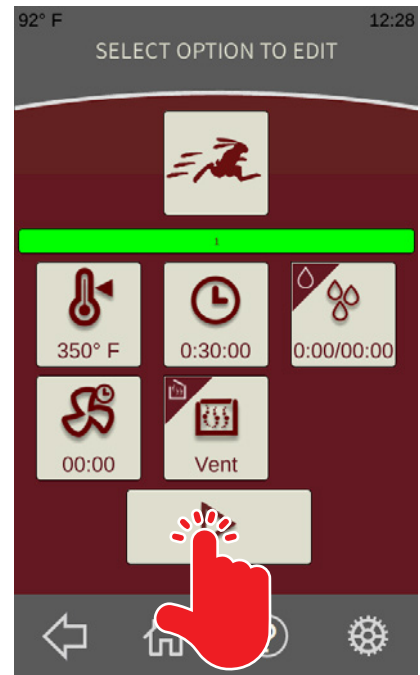

Fig. 11
8. Touch any of the buttons on the **Quick Start Recipe Run Screen** (Fig. 11) to modify any of the oven settings.
9. Touch the Play button on the **Quick Start Recipe Run Screen** (Fig. 11) to start the oven.